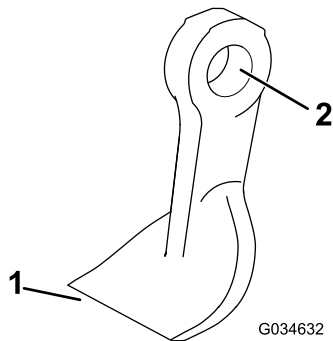

Figure 78
4. Inspect each blade for damage paying particular attention to the fasteners, cutting edge, and installation hole (Figure 78). Replace all damaged blades and fasteners.